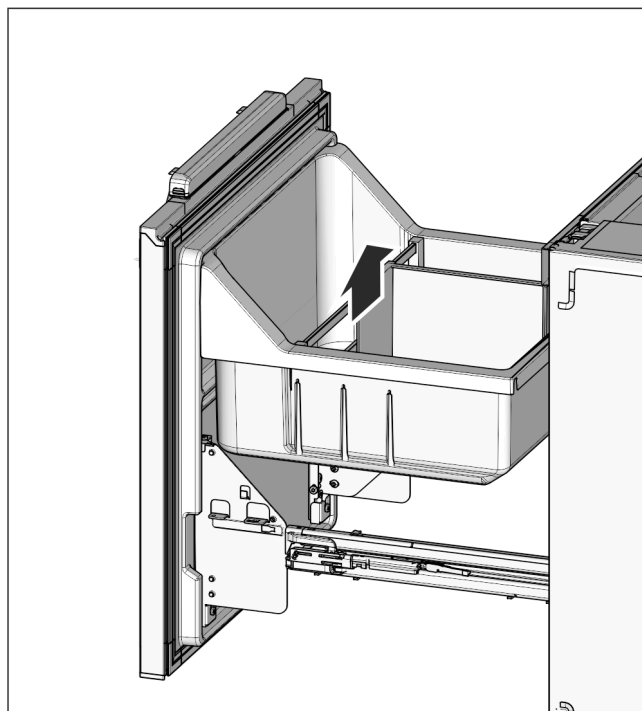

Fig. 25
- Replace the bottle rack Fig. 25 (32) and pull-out compartment Fig. 25 (31).